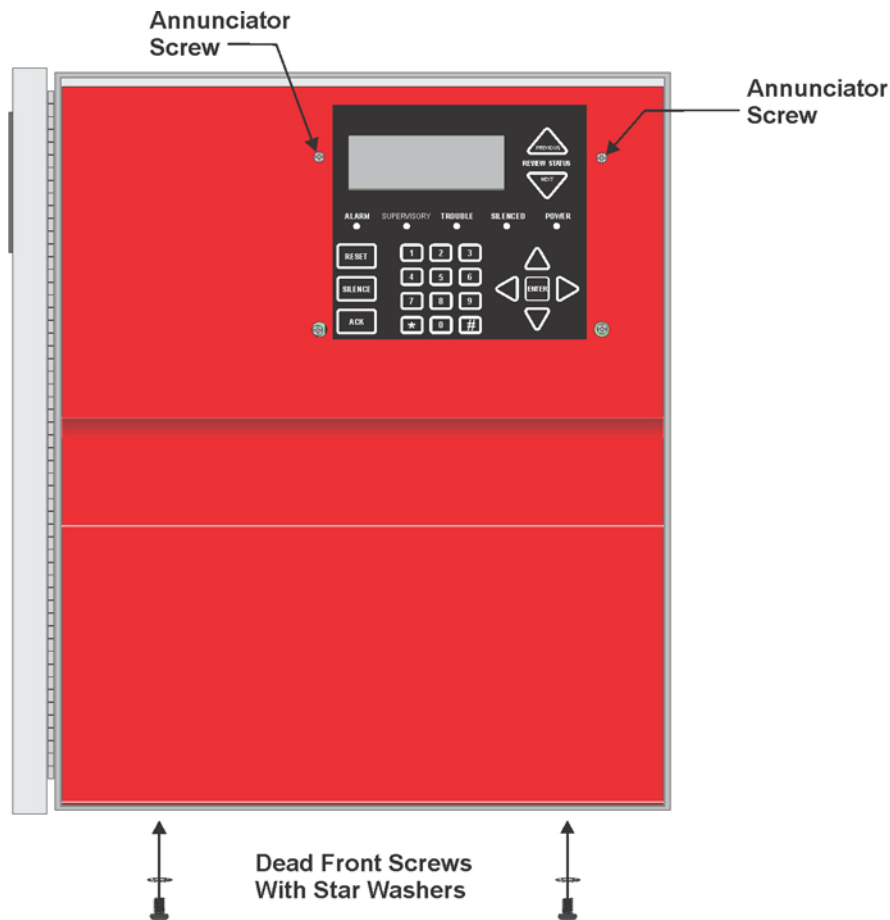

Figure 4.4 Dead Front Installation and Removal
1. Remove the top two annunciator screws, do not discard them they will be reused. See Figure 4.4 for annunciator screw location.
2. Set the dead front into the cabinet as shown in Figure 4.4.
4. Insert the two screws with the star washers into the bottom of the cabinet to secure the dead front into place. See Figure 4.4.
1. Remove the two annunciator screws, do not discard them. See Figure 4.4.
2. Remove the two screws and star washers from the bottom of the cabinet. See Figure 4.4.
4. Reinsert the two annunciator screws. See Figure 4.4.